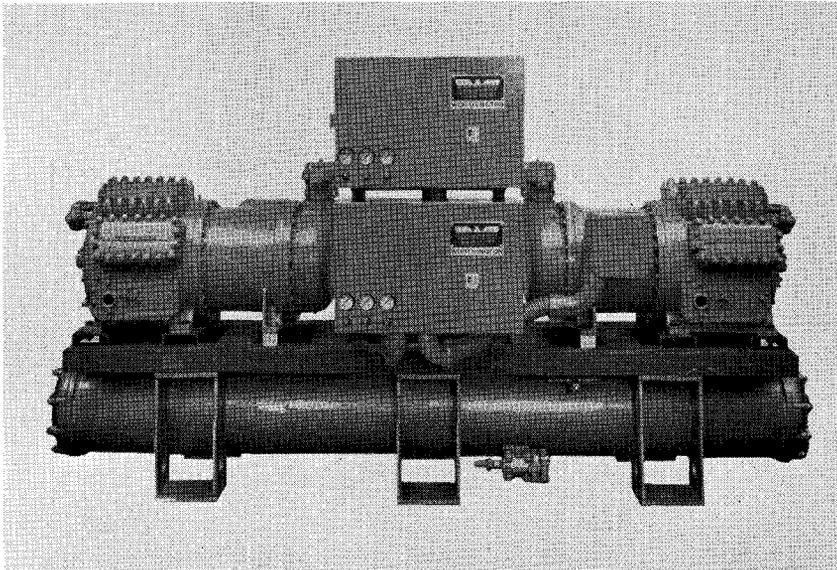

Fig. 4—Duplex Hermetic Condensing Unit
c. Duplex Unit (Fig 4)—Where higher capacity than obtainable with